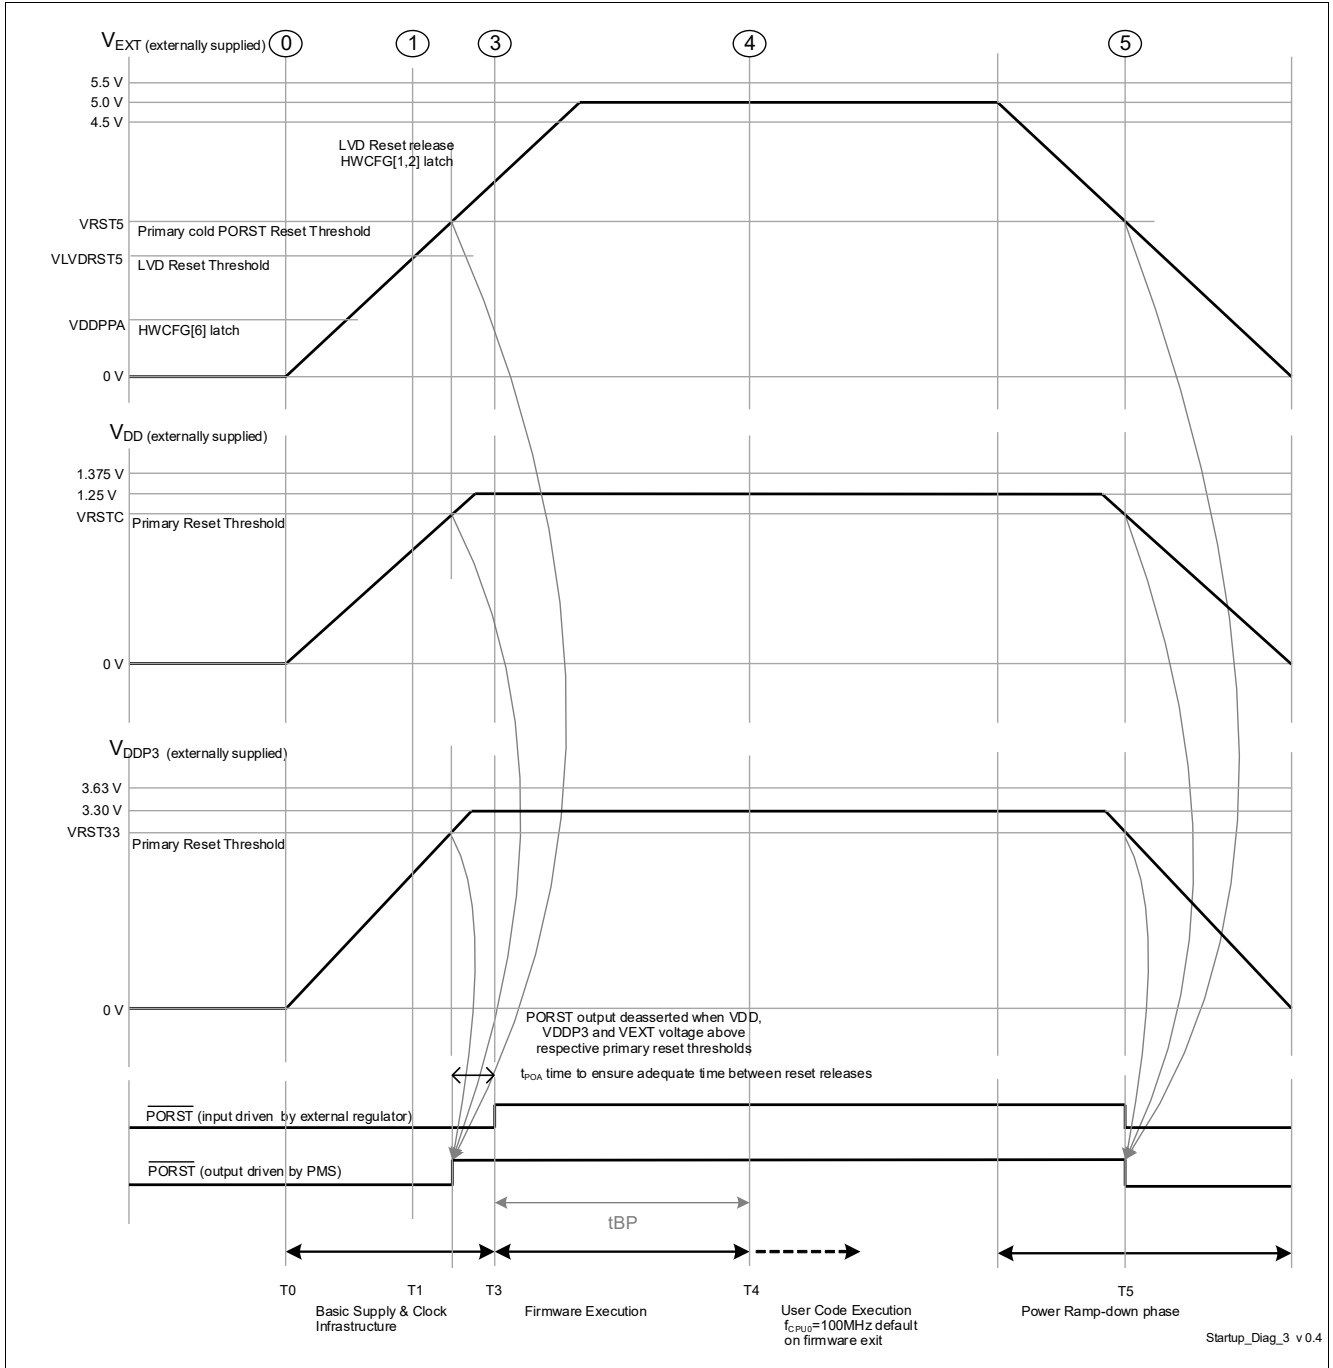

Figure 3-6 External Supply mode (h) - V_{EXT}, V_{DDP3} & V_{DD} externally supplied
- The power sequence as shown in Figure 3-6 is enumerated below